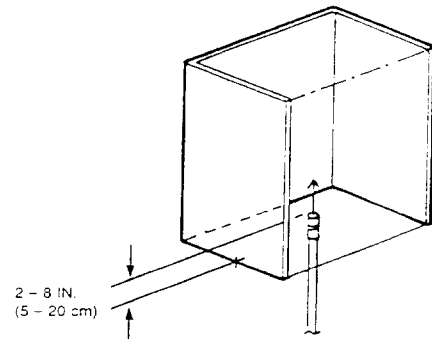

FIGURE 1
- Single Nozzle (One Flow Number) Duct Protection: One 1W nozzle (Part No. 419336) will protect ducts with a maximum perimeter of 27 in. (68.6 cm) or a maximum diameter of 8.5 in. (21.6 cm). The nozzle must be installed 2-8 in. (5-20 cm) into the center of the duct opening and positioned as shown in Figure 1.